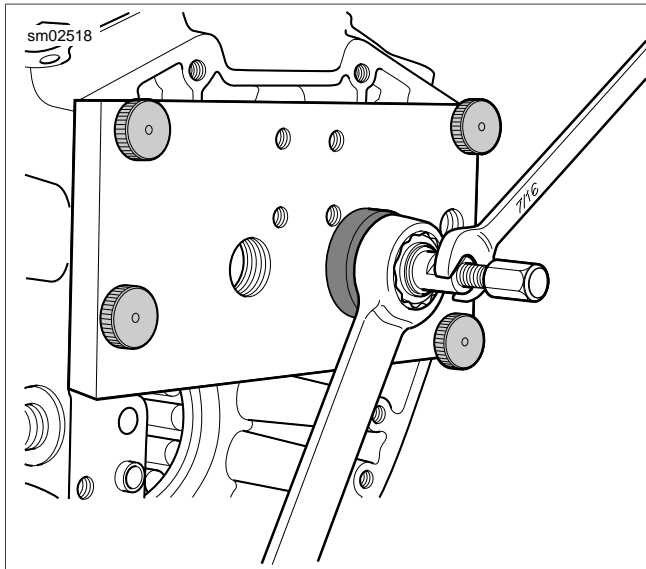

Figure 3-116. Bearing Removal
11. See Figure 3-116. Using a 15/16 in. open end wrench, turn hex nut in a clockwise direction until bearing is free. If necessary, hold flat on collet to prevent rotation.